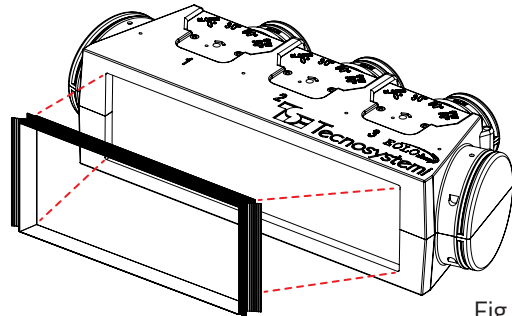

Fig. 6
6. Fissare i profili al plenum facendoli aderire bene. Eventualmente martellarli delicatamente. Fig. 6
6. Secure the profiles to the plenum, ensuring they adhere well. Knock them slightly to ensure they have adhered. Fig. 6